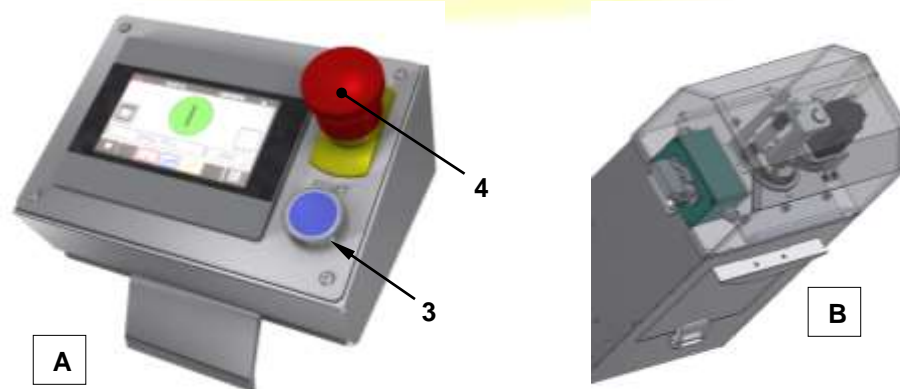

Figure 8 - “Memory Pack” Control Panel
For the instructions on how to use the “Memory Pack” control panel, shown in Figure 8/A, consult the attached “Appendix Memory Pack” manual. In this version, the weight chamber appears as in detail B, where for greater clarity the casing is represented as being transparent; obviously the manual adjustment flywheel is missing (ref. 1 Figure 24) since the adjustment is done using a dedicated motor.